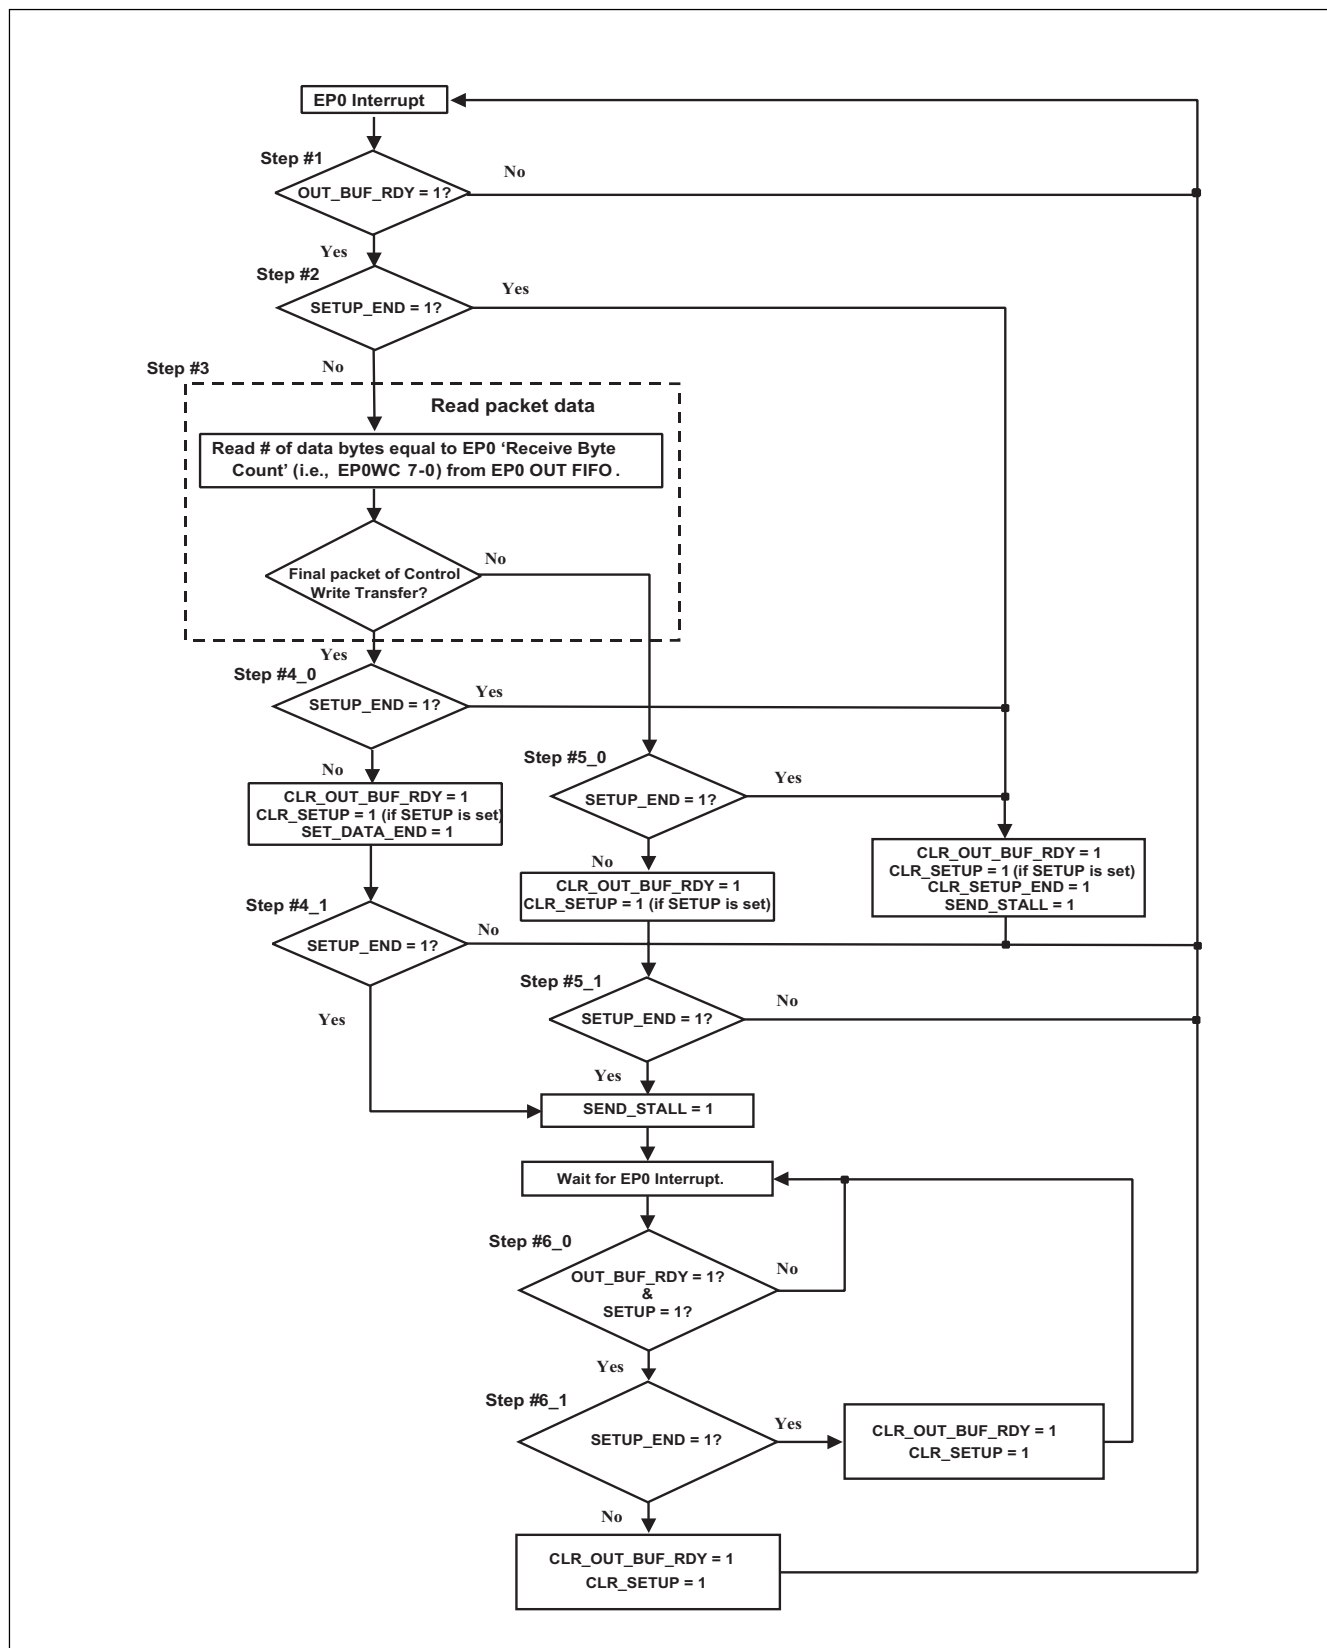

Figure 1.212. USB Programming Note 2 Flowchart
(6) Additional actions to take upon receipt of an EP0 interrupt are as follows (Refer to the flowchart in Figure 1.212):